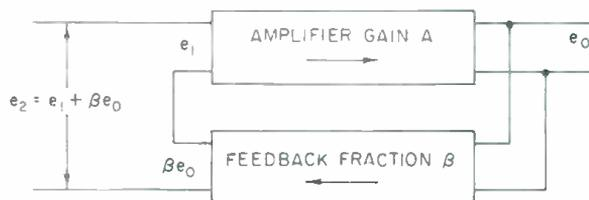
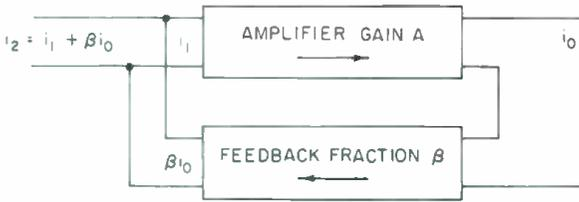
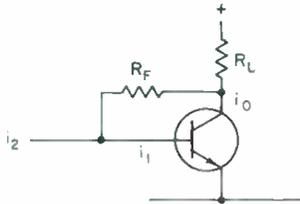

Figure 1. The classic feedback block schematic: voltage in, voltage out.
Figure 2. An alternative feedback block schematic: current in, current out.
Figure 3. A typical transistor stage, that can be analyzed in terms of Figure 2.
Whatever else feedback may do, it will always be related to one primary effect: on gain. So we start with that. First, assume we have an amplifier (FIGURE 1) that has a gain we designate  $A$ . That will have the dimension of either a voltage gain or a current gain, or else a transconductance or transresistance. So if you want to give it a dB figure, it will be  $20 \log_{10} A$ . Thus, if output voltage is 100 times input voltage, we would say that  $A = 100$ , or the dB gain is 40.
Now, for the moment we will assume that feedback is also designated by voltage ratio and is given by the symbol  $\beta$ . To work with voltage ratios in each case requires the configuration shown in FIGURE 1. Now let's put in some figures to make it easier to follow because letters are not all that easy.
Now, in FIGURE 1 we were working with voltage gain and a voltage fraction fed back. That is not the only form that feedback can take, although the formula is the same
If we redraw the block schematic of FIGURE 1 for current gain instead of voltage gain, it will look like FIGURE 2. Applied to a practical transistor stage, it might look like FIGURE 3. Here  $R_L$  is the collector load resistor, and  $R_F$  is the feedback resistor. The current through  $R_F$  will be  $R_L / (R_L + R_F)$  of the transistor output current. That is the value  $\beta$  will have in formula (1).